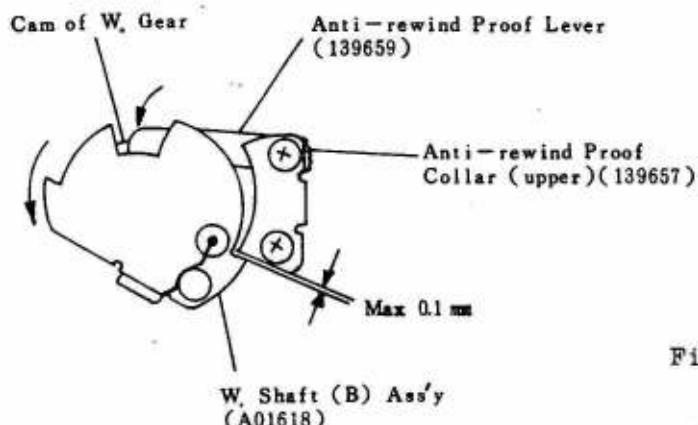

Fig 39
- b) Make the position which Anti-rewind Proof Lever (139659) is engaged with Cam of W. Gear as shown in (Fig 39).